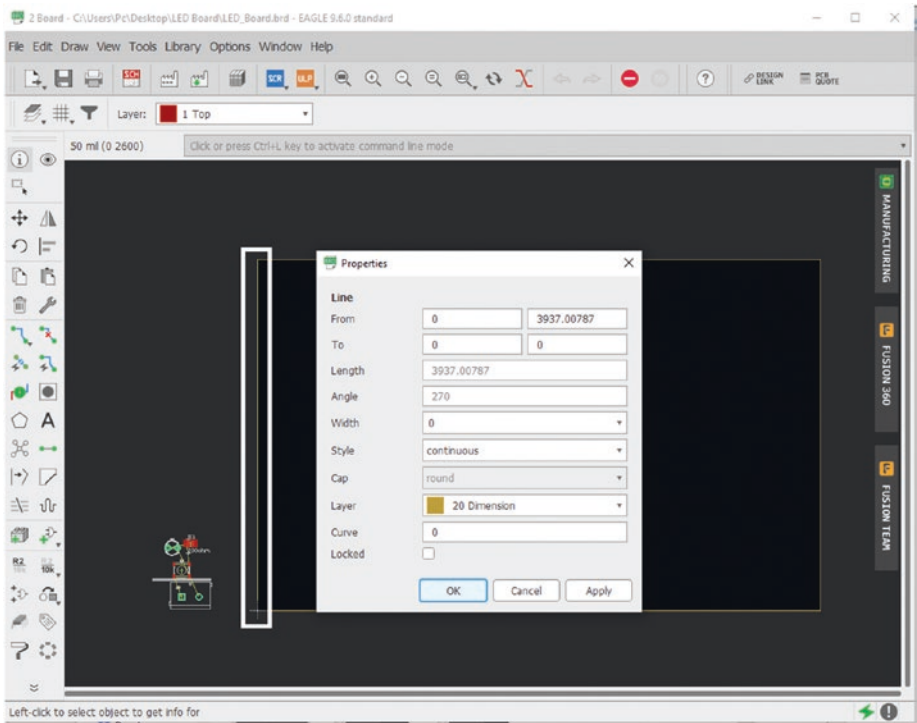

Figure 5-55. Select the left vertical line
4. Click the left vertical line, and a menu should appear. See Figure 5-55.